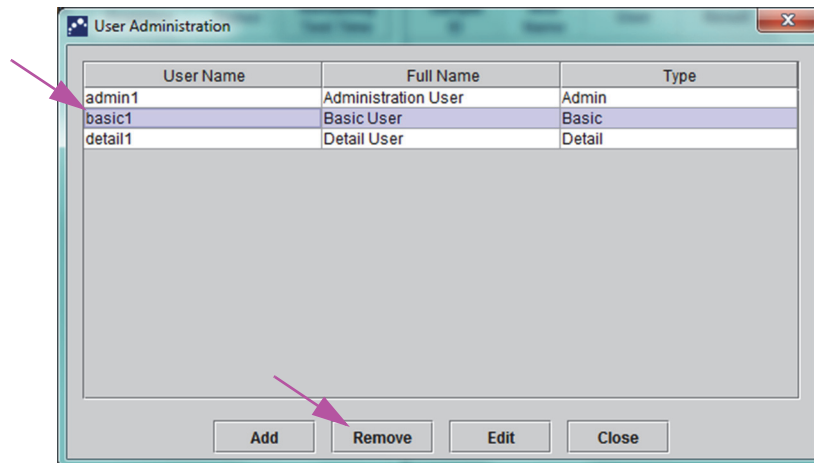

Figure 2-37. User Administration Dialog Box selecting User to be Removed
2. Click to select the user to be removed. See Figure 2-37.
4. To remove additional users, repeat Step 2 and Step 3. If you are done removing users, click **Close** (see Figure 2-37).